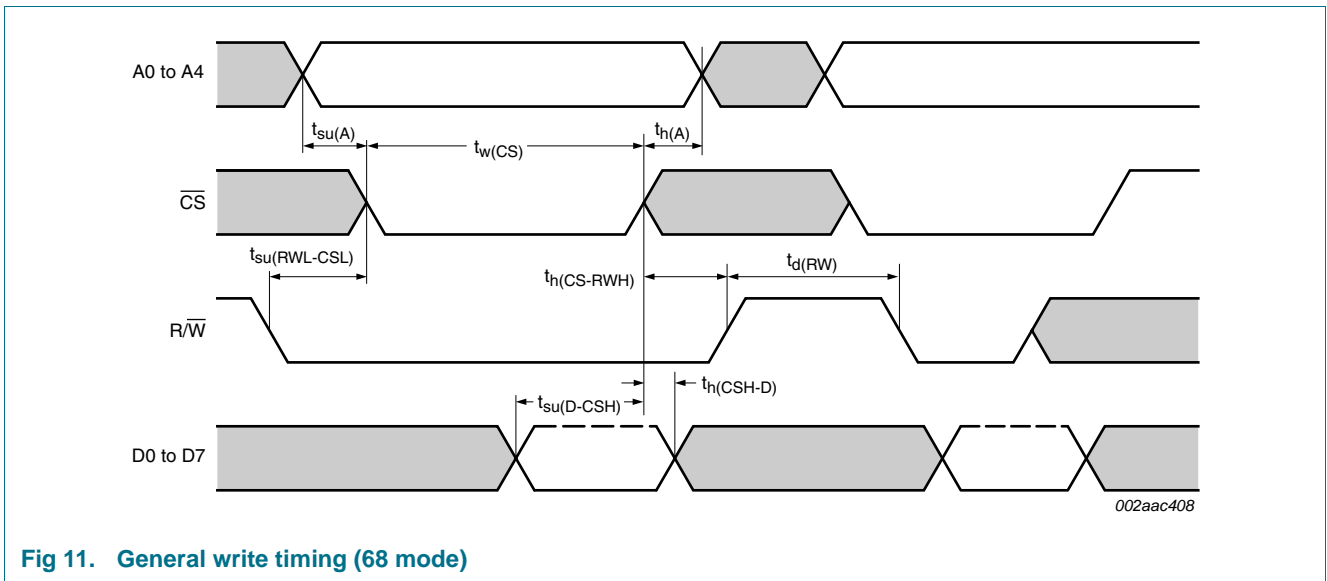

Fig 11. General write timing (68 mode)
- (1) \overline{CS} timing during a write cycle. See Figure 11.